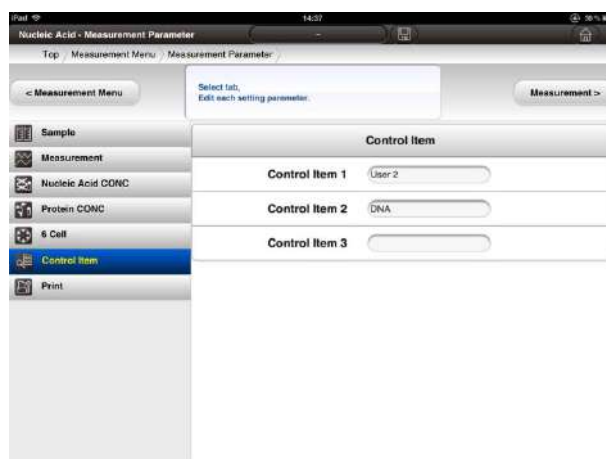

Fig. 4-55 Control Item Window
- (1) Press  [Control Item tab] to set control items.
- (2) The control item window window (Fig. 4-55) will then be shown.